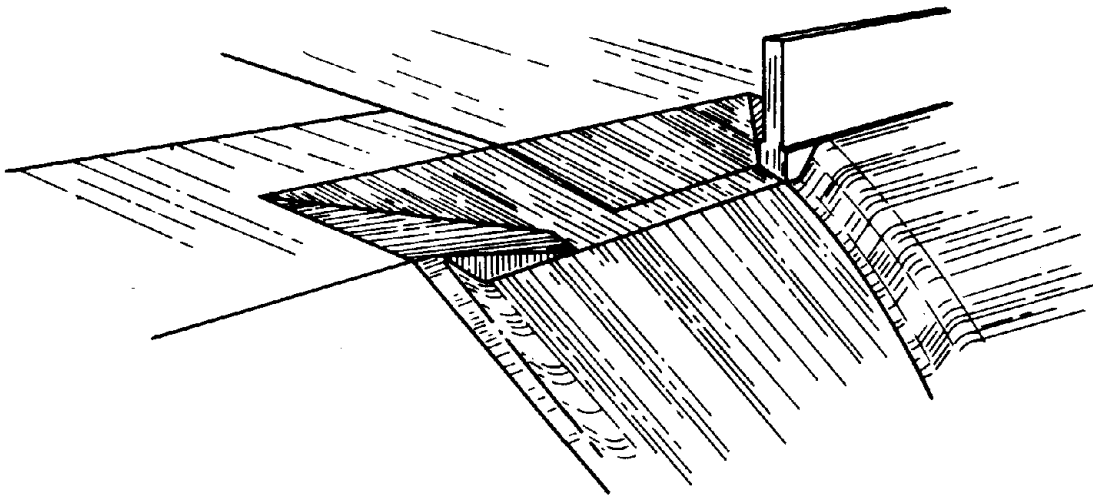

Figure 14. Bridge end drainage.
- b. Provide bridge end drainage (figure 14).